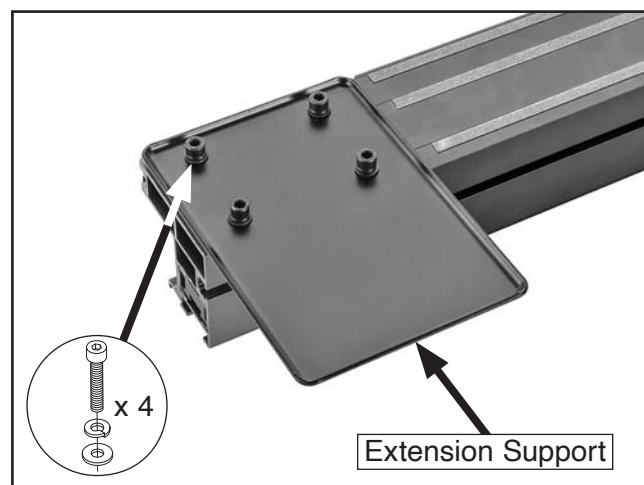

Figure 14. Fence extension support attached to extension fence.
31. Lay fence face down and use (4) M6-1 x 12 cap screws, 6mm lock washers, and 6mm flat washers to attach fence extension support to extension fence (see **Figure 14**).